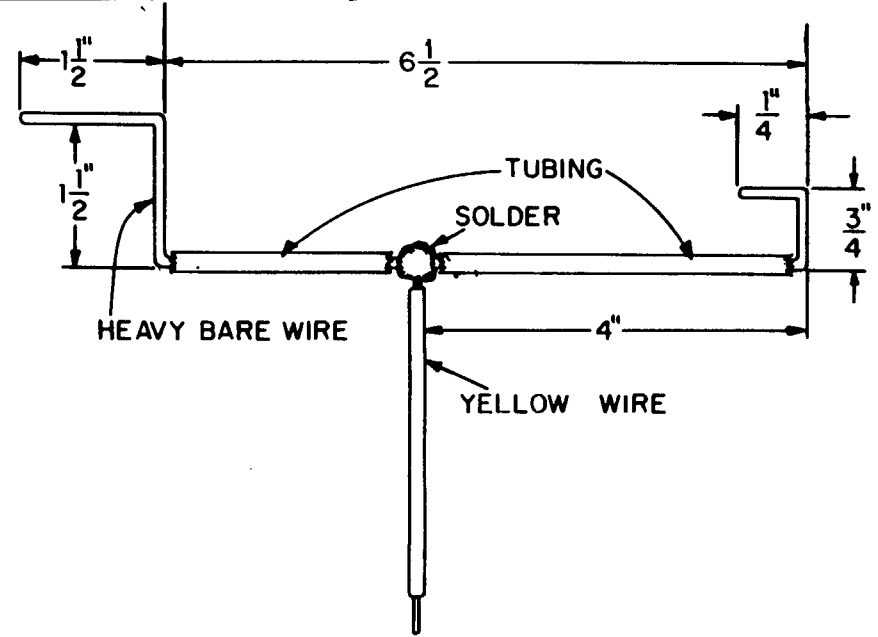
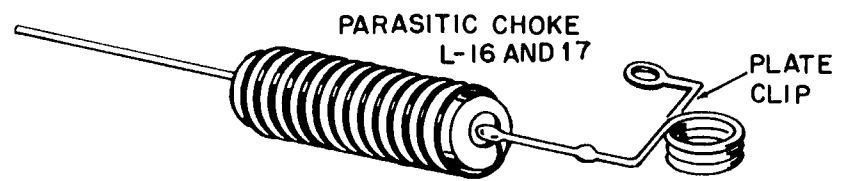

FIGURE 24. BUSBAR ASSEMBLY
FIGURE 25. CHOKES PREPARATION
- ☑ Cut an 11" piece of the large bare wire and two pieces of the large tubing; one 2" and one 4". Slide the two pieces over the large bare wire. Form the wire as shown in Figure 24. Solder a yellow wire to the bare wire as shown.
Step 1 (AS) - the large coil with three windings. Solder the long lead to terminals 1 and 2 of C-32. Solder the short lead to solder lug #1 of L-20 (2 wires). THE TAPPED COIL MADE OF HEAVY WIRE, SOLDER LONG LEAD TO TERMINALS 1 & 2 OF C-32, SOLDER SHORT LEAD TO DOUBLED SOL LUG #1 OF L-20. 32 THRU 4152
- ☑ L-16, parasitic choke (coil wound on a 2 watt resistor). Cut one lead so it is 1/2" long. Solder this lead to a plate clip as shown in Figure 25. Cut the other lead so it is 1" long. Connect this lead to the terminal of L-18. The plate clip will be connected later.